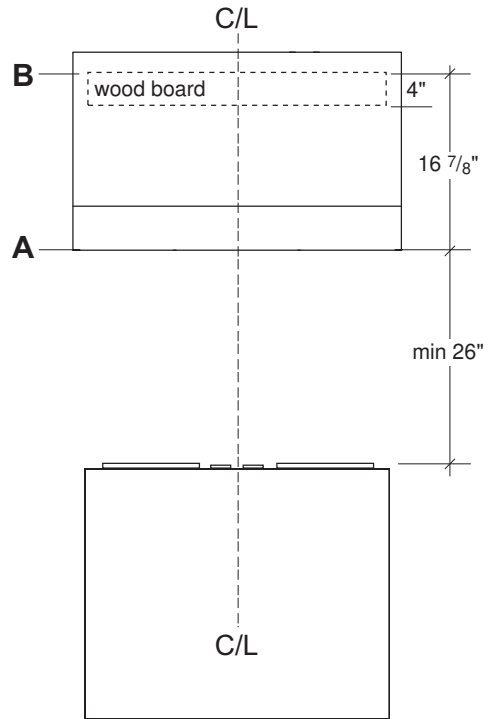

FIG. 1
- Choose the desired height above the cooking surface (26" minimum). Level and mark the hood bottom (line A in Fig. 1).
- Level and mark the top of the wood board (line B in Fig. 1), 16 7/8" from line A.